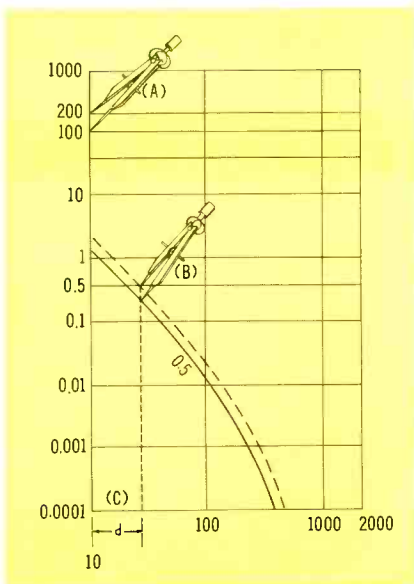

Fig. 1. Field intensity graph showing desired contour above 100 mv/m.
To find a given contour with any radiated power a divider is used as shown in Fig. 1. One leg is positioned at the 100 mv/m line on the appropriate graph (A). Remembering that the graph uses a logarithmic scale, the other leg is opened to read the desired power, say, 175 mv/m again; this point will be between the 100 and 200 mv/m lines on the graph. Now, maintaining this divider setting, slide the leg that was on the 100 mv/m line down the pertinent conductivity curve until the other leg rests directly above on the desired contour (B). The distance to the desired contour can then be read on the bottom scale (C). The ground conductivity line has been shifted to a new position so its intersection with the desired contour value is read as though it was the original calibration for 100 mv/m radiation.